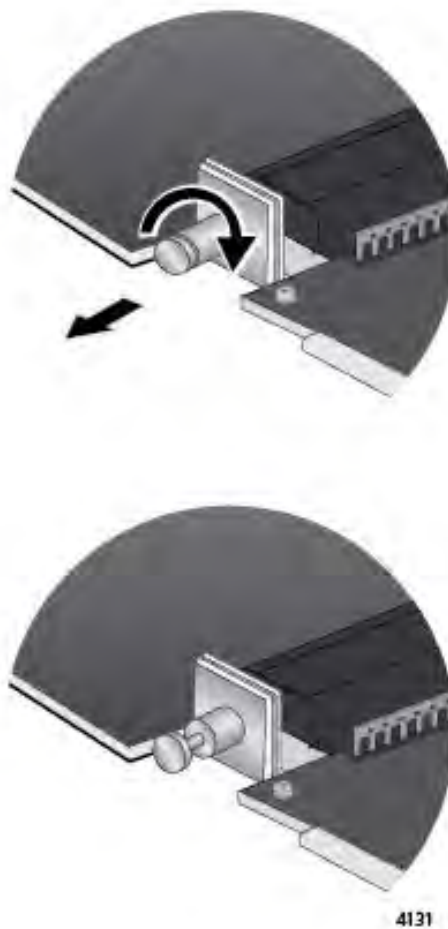

Figure 176. Retracting the Retaining Pin on the AT-SBx81XLEM Line Card
4. With your thumb and forefinger, pull out the retaining pin on the side of the line card and turn it clockwise one quarter turn until it remains in the retracted position. Refer to Figure 176.